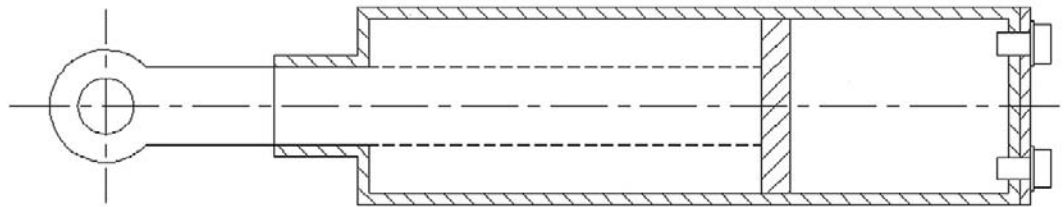

FIGURE 8.12
Step 10. Add the bolt projections, as seen in Figure 8.12 (the depth into the side view can be approximated). Finally, add hatch patterns, using the Angle option to reverse the hatch directions, which is a common technique in mechanical design to differentiate the parts from each other in a cross section.